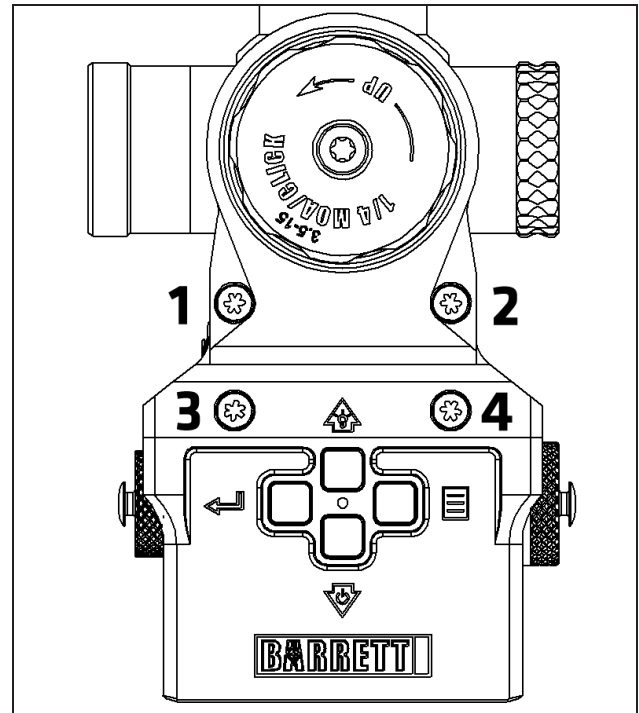
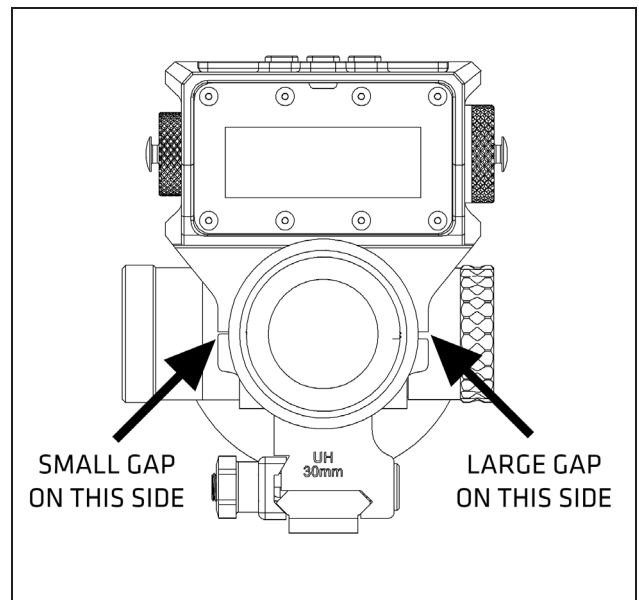

Figure 8.
Figure 9.
7. Ensuring the elevation knob rotates freely, evenly tighten Mount Screws (T-25 Torx®) # 1 and # 2. Figure 8. There should be a gap between BORS and the scope ring bases. Figure 9.
8. Tighten mount screws # 3 and # 4, and torque all four mount screws, in sequence # 1 to # 4, to 35in/lbs or 3.95Nm. Figure 8.